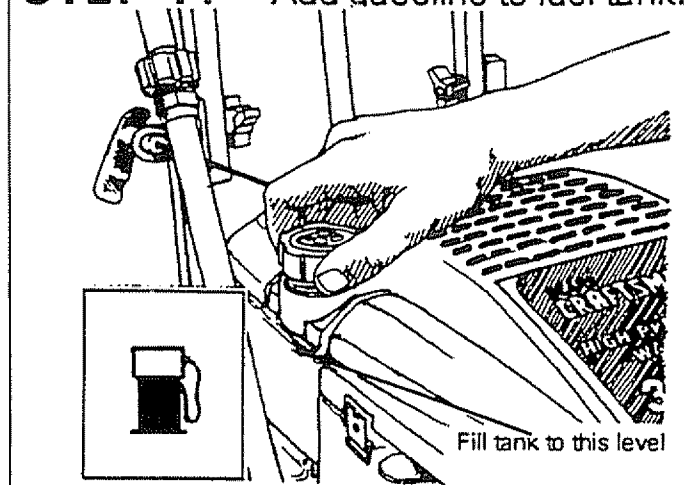

FIG. 11
- Clean area around fuel fill cap, remove cap (Fig. 11).